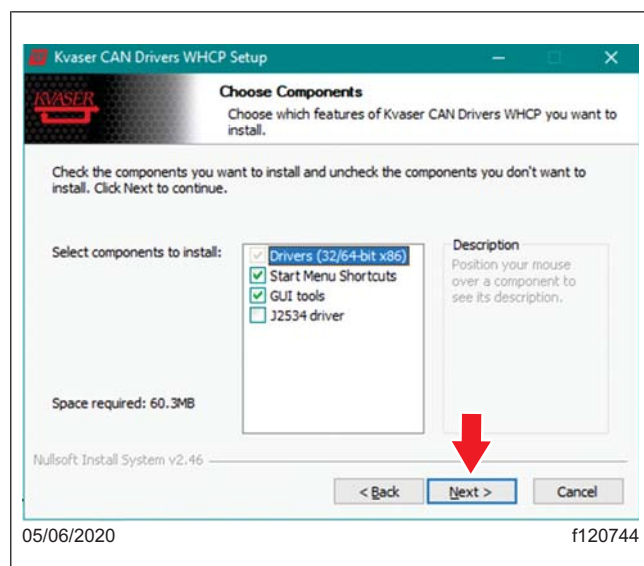

Fig. 11, Choose Components Window
14. The 'Choose Components' window appears next. All of the components are automatically selected. If there are components you do not want to install, remove the check mark beside the component(s) and select 'Next' as shown in Fig. 11.